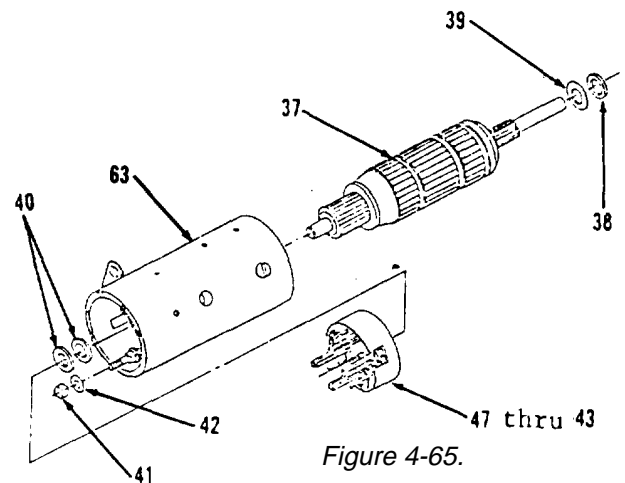

Figure 4-65.
7. Install four brushes (45) and springs (44).
8. Install insulation (43) onto plate (47).
9. Install items 47 thru 43 as an assembly into frame (63, Figure 4-65).
10. Install washer (42) and spacer (41).
11. Install two washers (40) and washers (39 and 38) on armature (37).